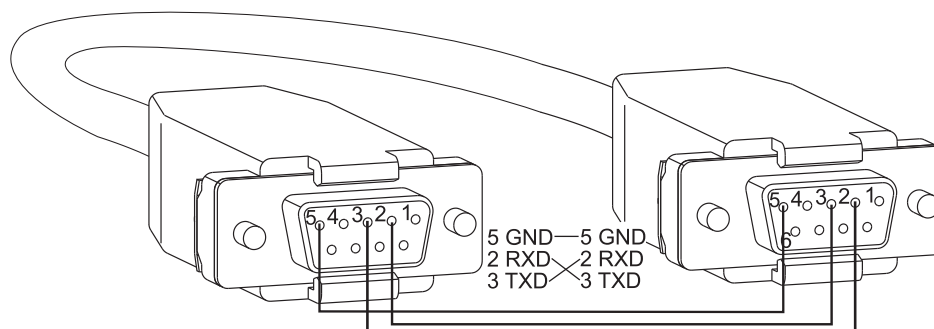

FIG. 8 RS-232 null modem pin diagram, no hardware flow control
1. Use a null modem cable that matches the pin diagram in FIG. 8 for RS-232 without hardware flow control. AMX AutoPatch equipment requires pins 2, 3, and 5 only.